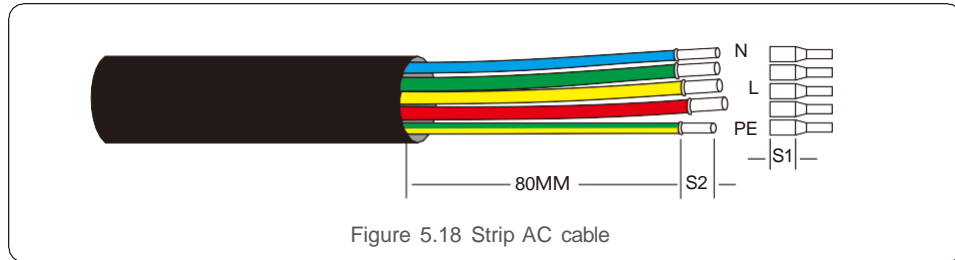

Figure 5.18 Strip AC cable
1. Strip the end of AC cable insulating jacket about 80mm then strip the end of each wire. (as shown in figure 5.18)